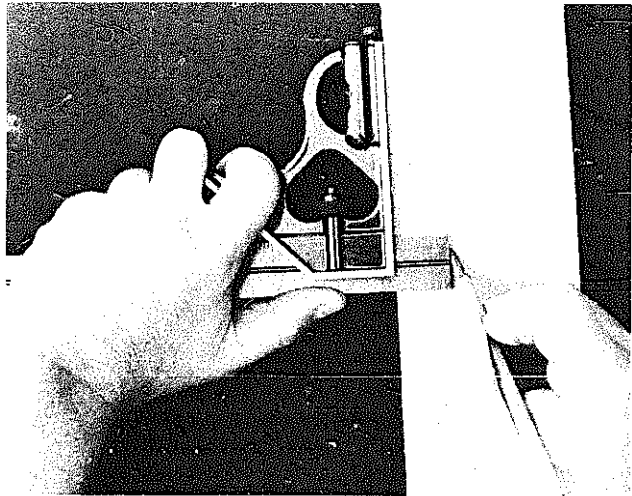

Fig. 4-31 Using the combination square for gauging
2. Hold a pencil at the end of the blade. Move the combination square and pencil along the board, making the necessary gauge mark. See figure 4-31.